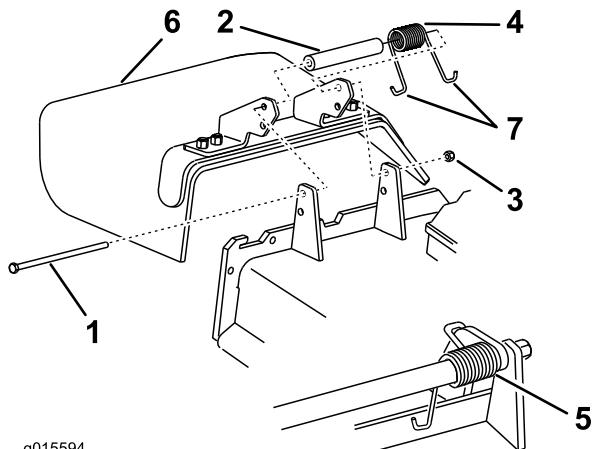

Figure 7
1. Make sure one **J** end of the spring is installed behind the deck edge before installing the bolt as shown in Figure 7.
2. Place one **J** hook end of the spring around the grass deflector (Figure 7).